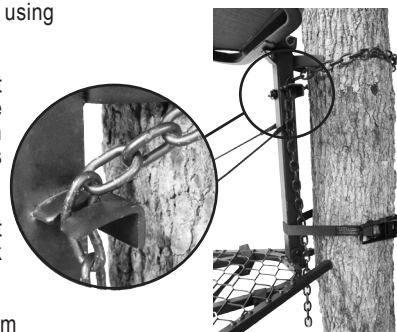

Figure 19
STEP 7: Leaving the treestand folded, remove the hoist rope. Now place the treestand against the tree, still folded, and wrap the chain (refer to Figure 15) around the tree trunk and secure it in the chain receiver (refer to Figure 15) as shown in Figure 19. You must remove as much slack from the chain as possible prior to engaging the chain in the chain receiver. This allows for the most rigid installation possible.